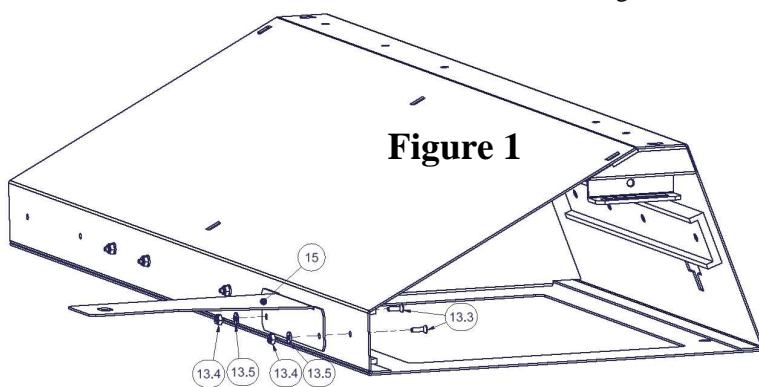

Figure 1
2. Assemble the rear mounting brackets (#15 and #16) to the enclosure using (4) #13.3 Screws, (4) #13.5 Washers, and (4) #13.4 Nylock Nuts (Shown in Figures 1 and 2). **NOTE:** It may be necessary to loosen the other slide mount screws to more easily align the holes in the enclosure, the slides and the mounting brackets for screw access.